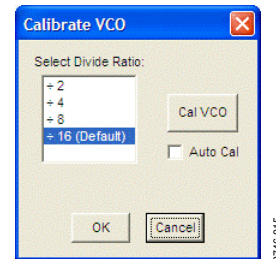

Figure 19. **Calibrate VCO** Window
15. Click the blinking yellow **Cal VCO** button to open the VCO calibration window. The default VCO divide ratio (16) works for all applications. Click the **Cal VCO** button in the **Calibrate VCO** window to begin calibration (see Figure 19). The PLL is now locked and the lock detect (LD) LED on the left side of the board is on.
The **Calibrate VCO** window shown in Figure 19 is accessed by clicking the **Cal VCO** button in the main window.